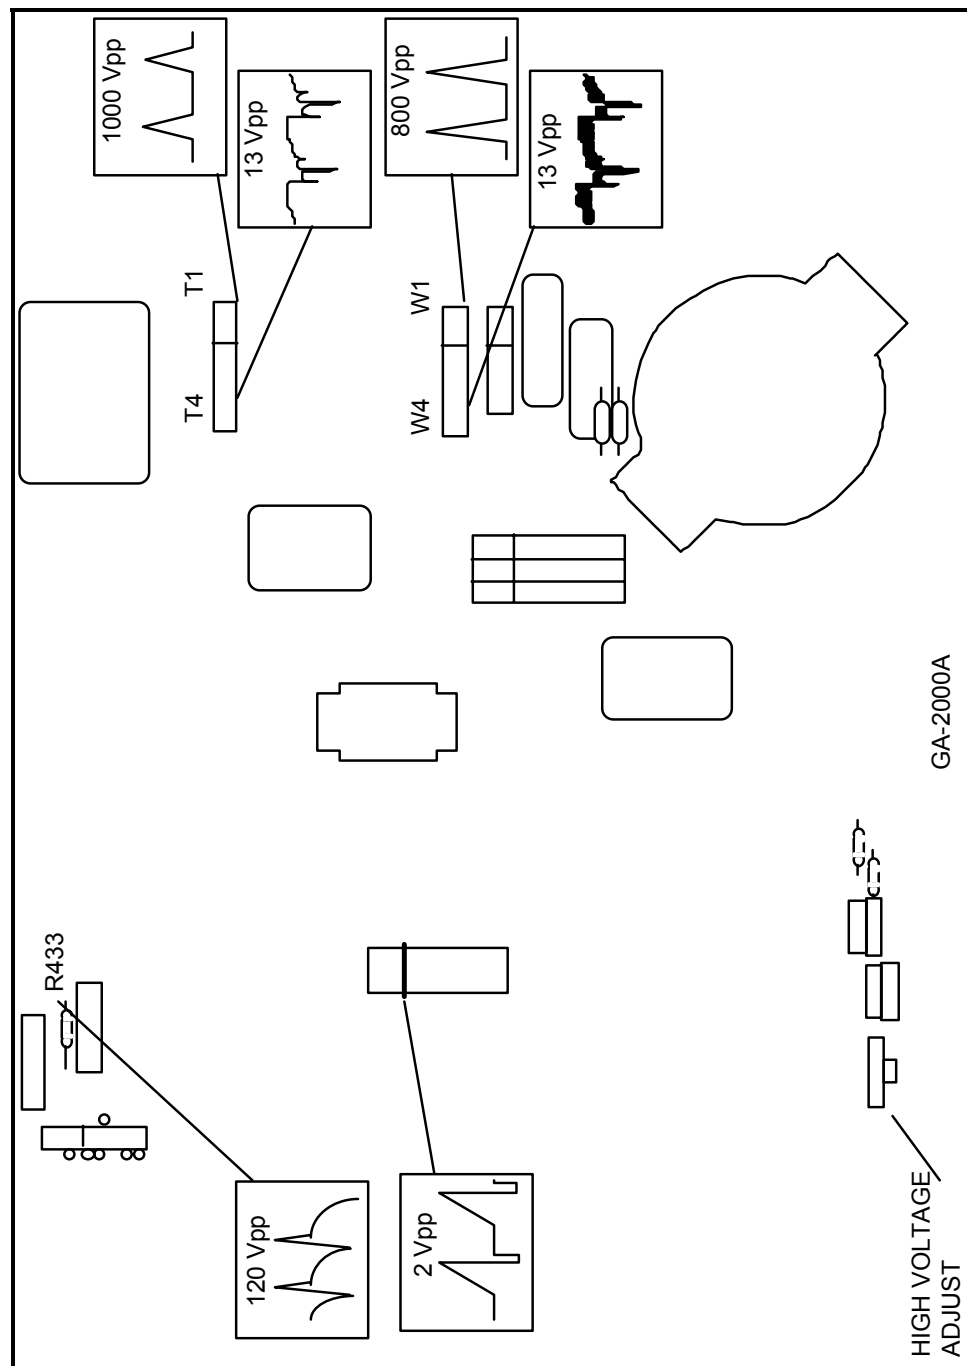

Figure 3-6 — PWA GA2001A+MOD, Deflection (P/N 51109153-300) 1645
1. With the power off, connect the High Voltage Probe to the CRT. Turn the power on and check for an indication between +24.7 kVdc and +25.1 kVdc on the DMM. If the voltage is not as specified, adjust the HV Adjust, R621, located on PWB GA2001A+MOD (see Figure 3-6).